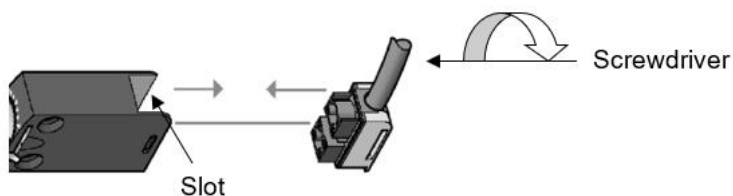

Fig. 2.5
For greater ease, it is possible to disconnect the connectors from the switches see Fig. 2.5. With a flat screwdriver, loosen by a quarter turn and then insert the screwdriver into the slot on the side to release the connector.
2. For greater ease, it is possible to disconnect the connectors from the switches Fig. 2.5.